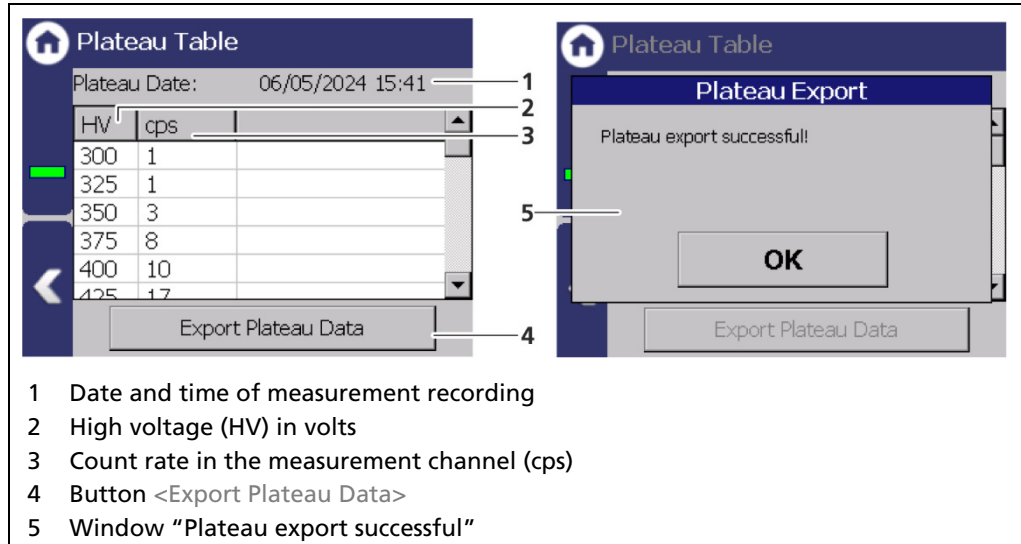

Fig. 50 Plateau Table
1. Click on <Start> (Fig. 50, item 2) to perform a plateau measurement.
- ▶ The confirmation message "Record Plateau" (Fig. 50, item 3) opens.
2. Confirm with <Yes> (Fig. 50, item 4).
- ▶ The EVU switches to mode "DET" (Fig. 50, item 8) and the current measurement is stopped.
- ▶ The information (Fig. 50, item 6 - 8) from the plateau measurement are displayed in the status information. The LED Run flashes on the EVU during the plateau measurement. The LED "Warning" LED lights up at the same time.